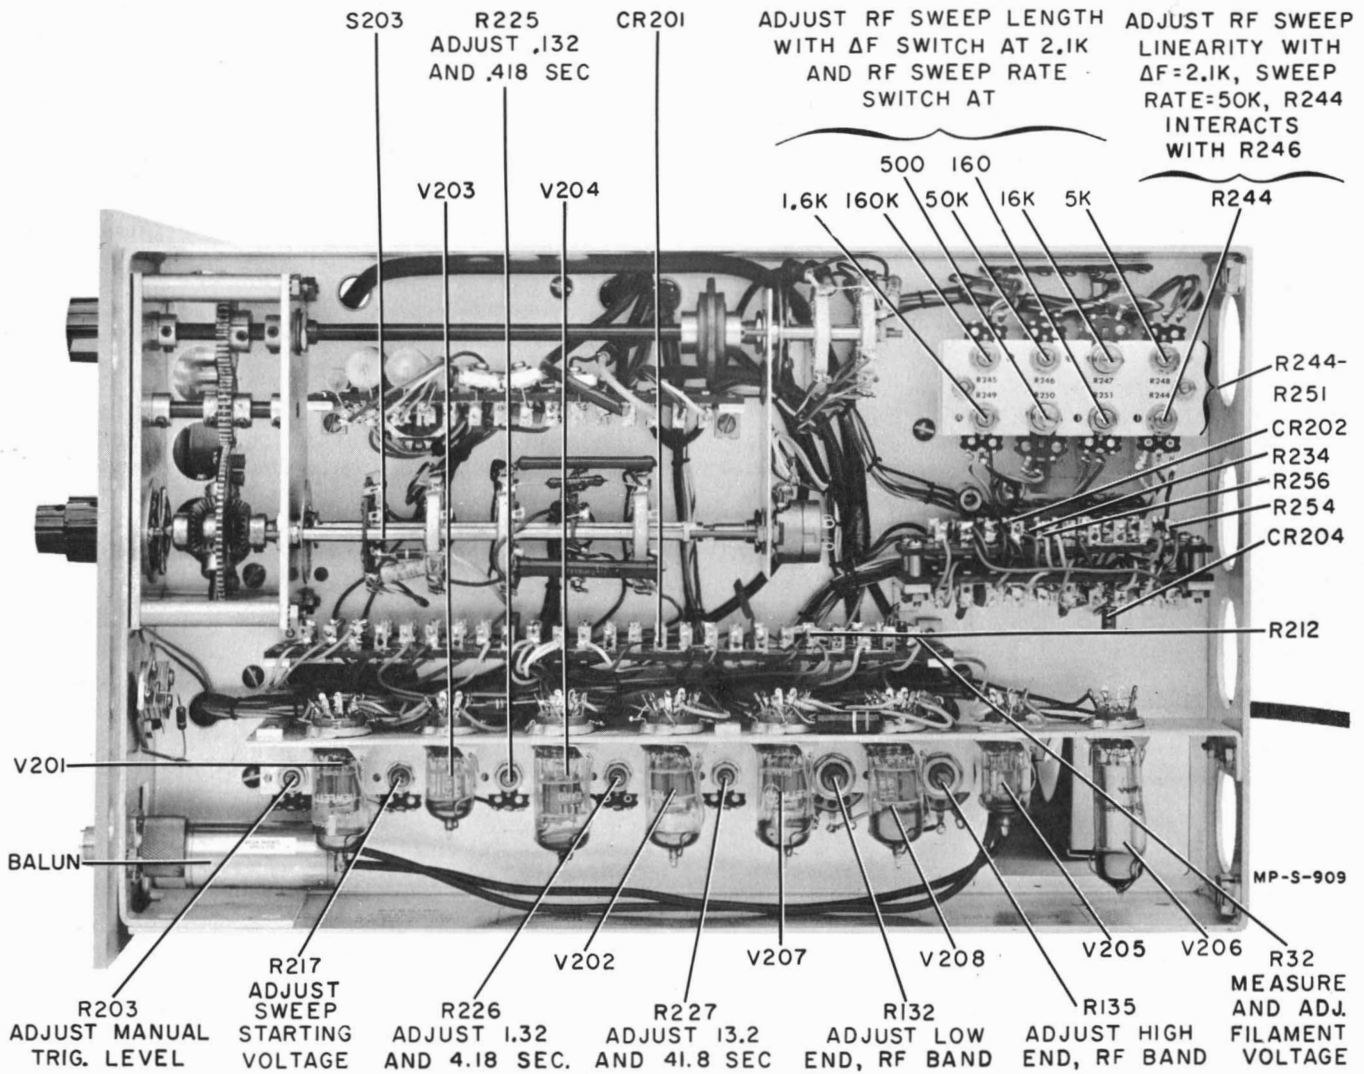

Figure 4-15. Model 683C Right Side View
14) Repeat steps 8 through 11, selecting a value for R254 (figure 4-15) to bring b within specifications. Figures 4-11B and 4-11C show the direction of resistance correction for 1) a short sweep and 2) a long sweep.
15) Turn RF SWEEP RATE to 16, selecting a value for R256 (figure 4-15) to bring b within specifications. See figures 4-11B and 4-11C.
Three troubles which may occur could cause a very distorted wave shape and thus can be easily detected. If V203 (6AL5) or V204 (6AN8) (figure 4-15) is defective, the sawtooth will be distorted. The defective tube generally has high heater-cathode leakage which modulates the sawtooth voltage. By observing the sawtooth SWEEP OUTPUT voltage on an oscilloscope distortion can easily be detected. Diode CR202 (figure 4-15) associated with the FREQUENCY potentiometer circuit will cause limiting on the sawtooth if the diode has a low front-to-back ratio. If diode CR201 (figure 4-15) is defective the V202B cathode will not follow the grid. The grid will then draw current which will disable the sweep circuit.
- 1) Check filament voltage for V103, V105, V107, V109, V202, V207, V208, and V302. Place an ac vtvm across R32 (see figure 4-15, right side view); no 6.3 volts ac, replace R35.